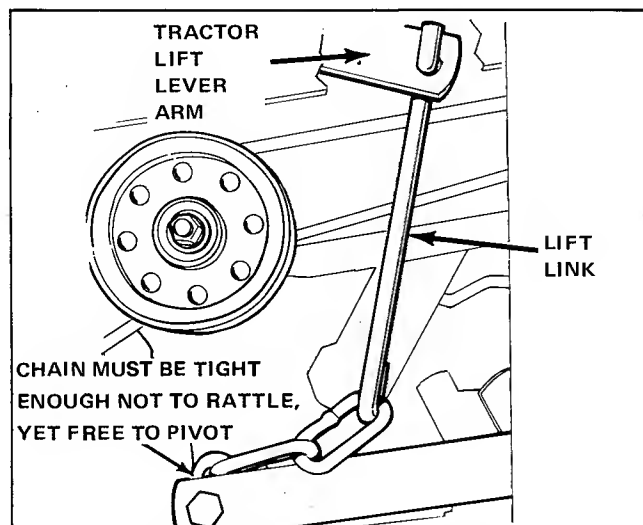

Figure 6. Installing Lift Link
4. Slip the lift link into the lift lever arm and attach the lift chain to the lift link (see figure 6).